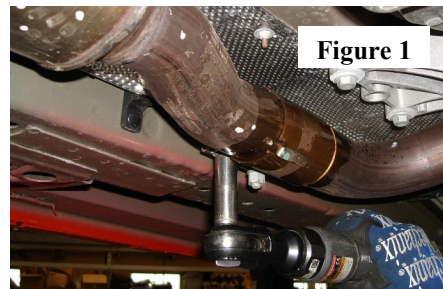
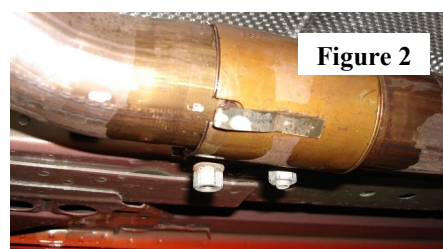

Figure 1
Figure 2
1. On each exhaust pipe behind the catalytic converter, unbolt the clamp (figure 1) using a 15mm socket. Unbend the metal tab (figure 2) on each pipe. After removing these clamps retain them for use in mounting the new system.